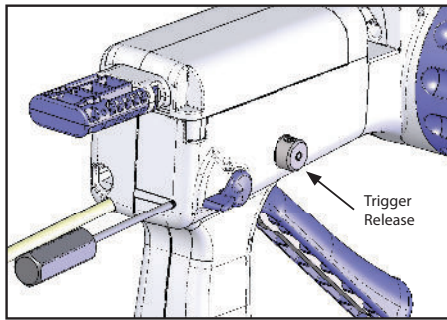
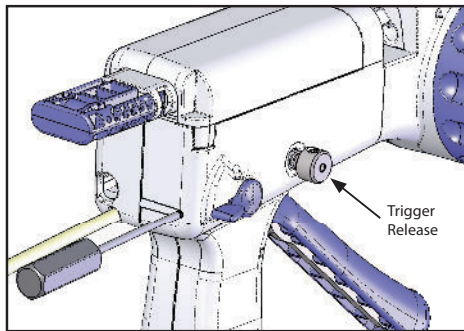

Figure 6
Figure 7
30. Insufflate stomach. Position tissue mold at the gastroesophageal junction while maintaining sufficient insufflation and visualization. Maintain contact between the tissue mold tip and the gastroesophageal junction, unlock and advance the helical retractor while rotating the helical retractor control counterclockwise until the retractor is in contact with tissue. Rotate the helical retractor control clockwise approximately four (4) rotations to fully engage tissue. **CAUTION:** Only insufflate the stomach until adequate procedure visualization is achieved, do not over-insufflate. **CAUTION:** Do not engage the helical retractor into undesirable tissue such as thin or scar tissue, the diaphragm, or crura. **CAUTION:** Do not over-engage the helical retractor into tissue. Tissue may bind and become unable to disengage from tissue.
37. Deliver fasteners by (1) depressing the fastener delivery trigger release (Figure 6); (2) pulling the fastener delivery trigger fully until the trigger contacts the handle of the device and resistance is felt; (3) completely releasing the fastener delivery trigger in one rapid motion. Ensure the fastener delivery trigger is not depressed and is locked out by the fastener delivery trigger release (Figure 7). **CAUTION:** Do not deliver fasteners in the same location as previously deployed fasteners as an adverse event such as fasteners breaking or pulling through tissue, or, in rare cases, perforation or pleural effusion may occur.